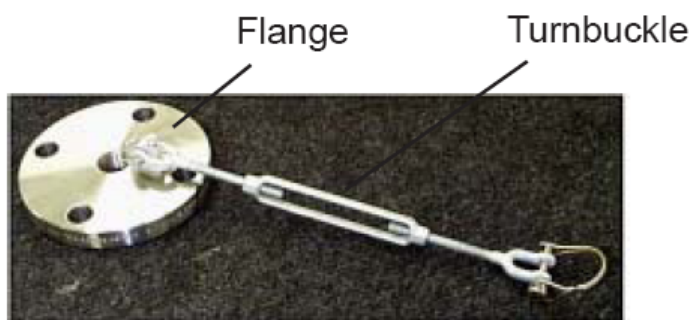

Figure 11
2. Align flange holes with turnbuckle anchor at bottom. Install four appropriate sized bolts and hand tighten all four bolts evenly. Tighten with wrench (see Figure 11).